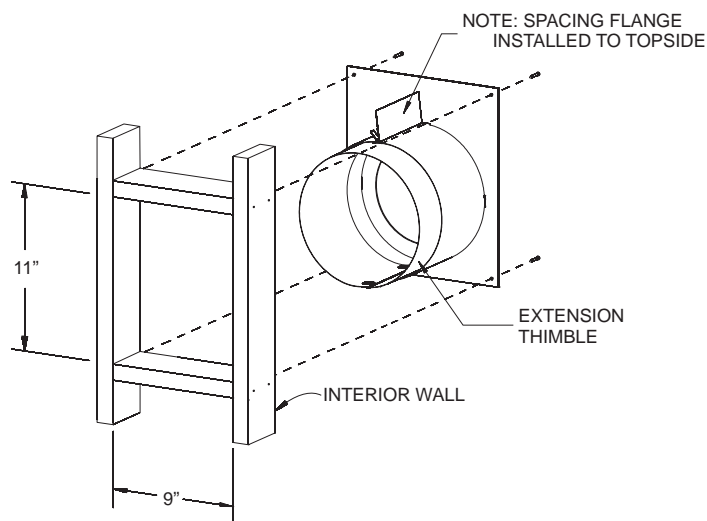

Figure 54
2. Cut hole in wall for wall thimble/firestop assembly **Figure 54** into your combustible wall. Note: On brick or block exterior wall a 7" (178mm) diameter hole needs to be cut.
Measure the total wall thickness to determine whether or not the extension thimble is to be used. If the combustible wall depth is over 5 3/8" (137mm), then the extension thimble should be used **Figure 54.**
3. Install the wall thimble assembly through the framed opening so the firestop plate is on the interior wall **Figure 54**. Telescope section should extend all the way through the exterior wall. Attach with (4) 10 x 1" screws.